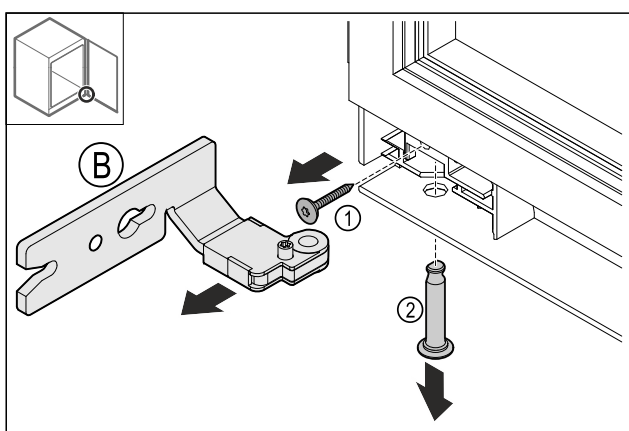

Fig. 15
- Remove the screw Fig. 15 (1).
- Remove the pin Fig. 15 (2).
- Remove the hinge Fig. 15 (B).